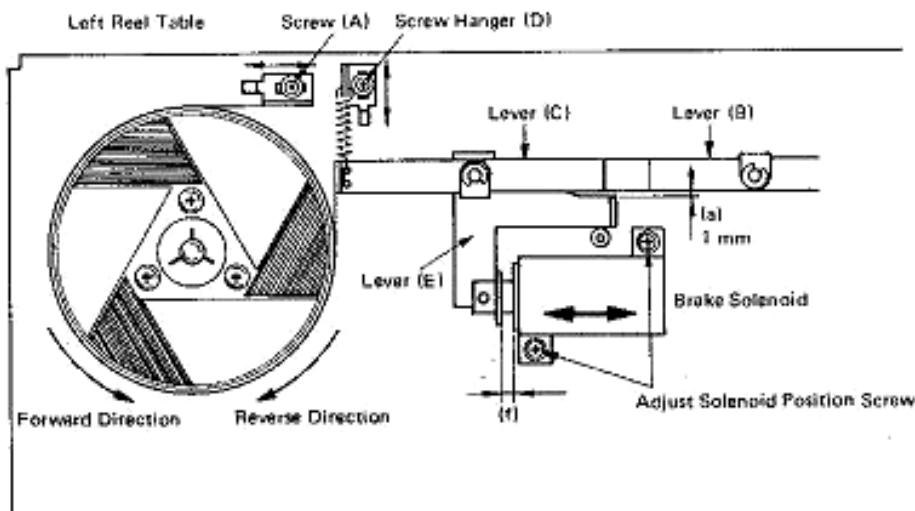

Fig. 2-2.
1. Screw (A) for the left brake (as viewed from the front) must be adjusted so that there is a clearance (a) of 1 mm between lever (C) and lever (E). Screw (A) for the right brake must then be adjusted so that lever (B) is parallel to lever (C). See Fig. 2-2.
4. If the forward-direction torque is not correct, change the hooking position of the spring hanger (reference (D) in Fig. 2-2) for the corresponding brake requiring adjustment. If, after the forward-direction torque has been properly adjusted, the reverse-direction torque is not correct, or the forward-direction torque is still not correct, check to see if the brake felt pad is worn, and also check that the brake mechanism is properly aligned as explained in Section 2-4, "Brake Mechanism". If necessary, replace the entire reel table.